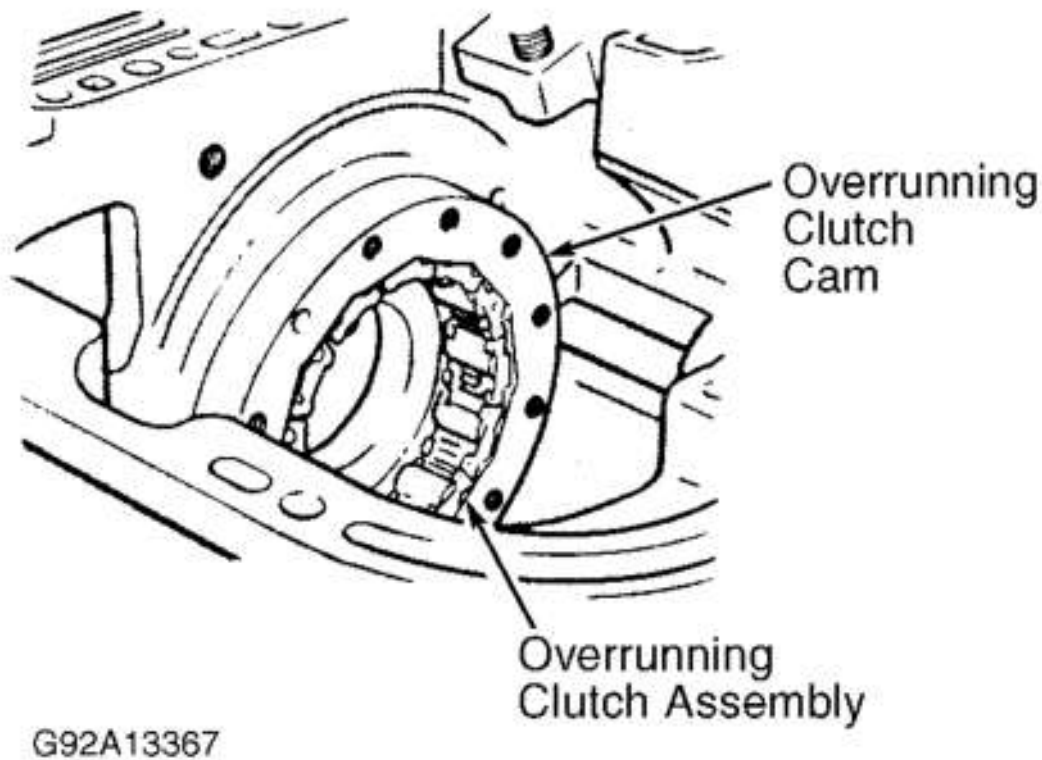

Fig. 16: Removing Overrunning Clutch Components
16. Note direction of overrunning clutch installation for reassembly reference. Remove overrunning clutch bolts from rear of transmission case. Remove overrunning clutch cam and rollers and overrunning clutch cam as an assembly by rotating back and forth and tilting inward. See **Fig. 16** .